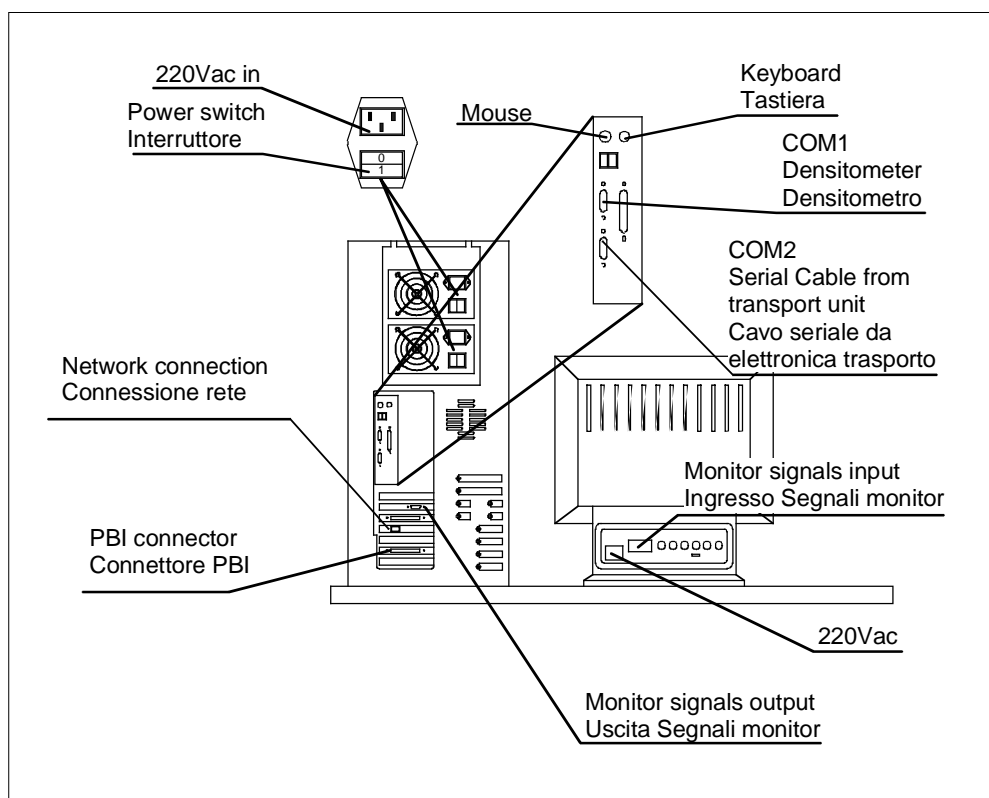

Fig.9 - Connections to the Personal Computer
It is possible now to connect the computer and the rest of the electronic units, see fig. 9 on page 18.
Connect the mouse and computer keyboard as shown on fig. 9 on page 18.
- The two supply switch on the rear panel of the PC cabinet (see fig. 9 on page 18) are in the **ON** position.